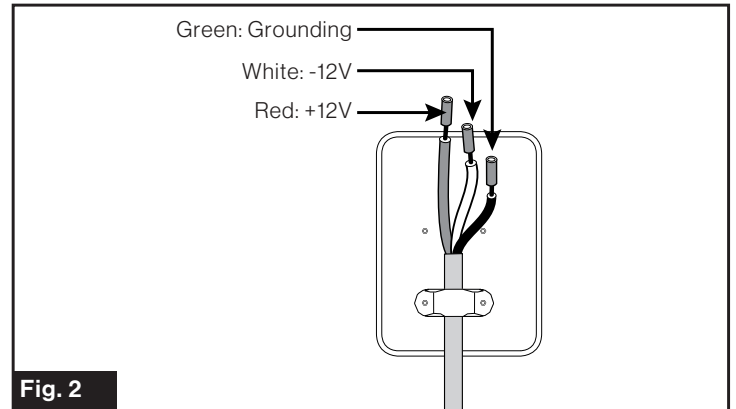

Fig. 2
2. Connect the Red "+" to the 12V DC positive pole. Connect the White "-" and green "GND" wire together with the 12V DC negative pole. (Fig. 2)